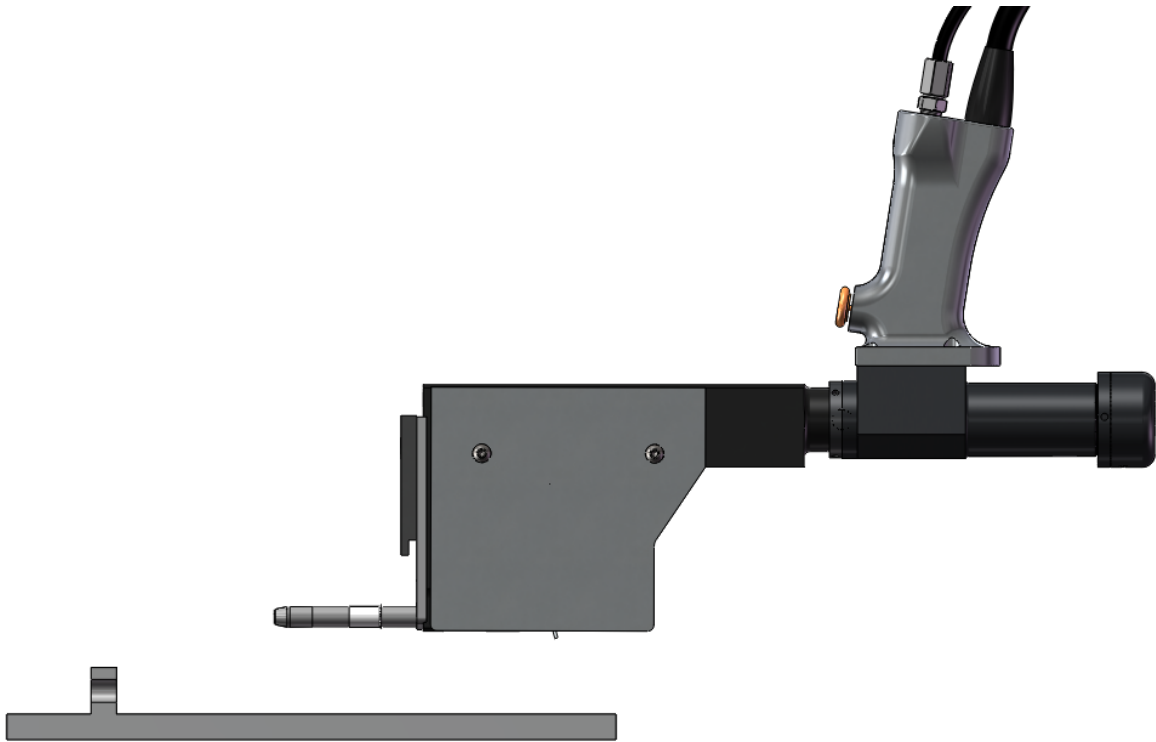

Figure 5-2
3. Select and install sleeve on mandrel with flare toward nosecap. Insert mandrel and sleeve into hole as shown in Figure 5-2.